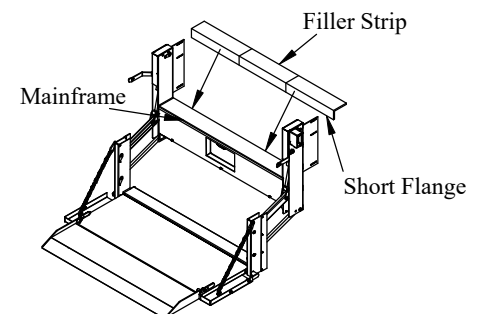

Figure 7: Filler strip placement.
1. **Arrange** the three (3) 15-1/2" filler strips end to end with the short flange flat against the back of the liftgate mainframe and the top even with the top of the mainframe (Figure 7).
3. **Attach** the three (3) filler strips to the mainframe with the provided self drilling screws.